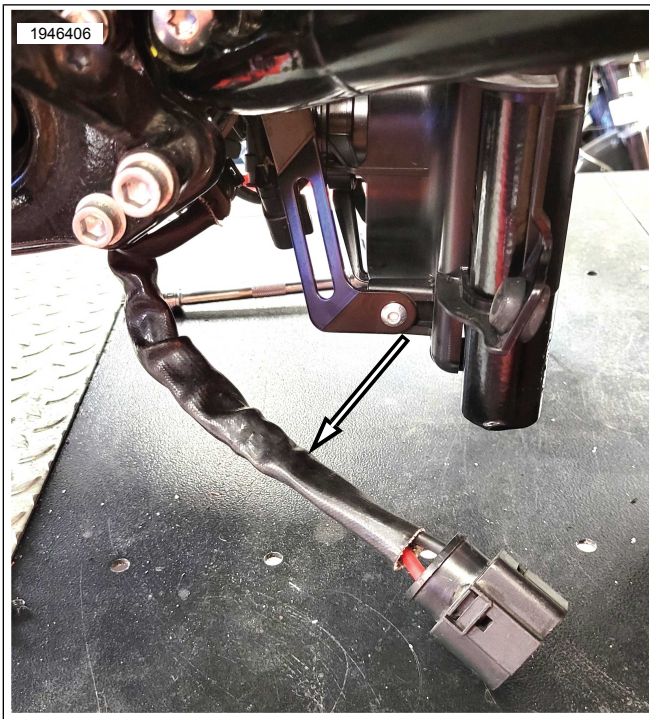

Figure 5. Voltage Connector [77] with Harness Sleeve
2. See Figure 5. Pull voltage regulator connector [77] down below frame.